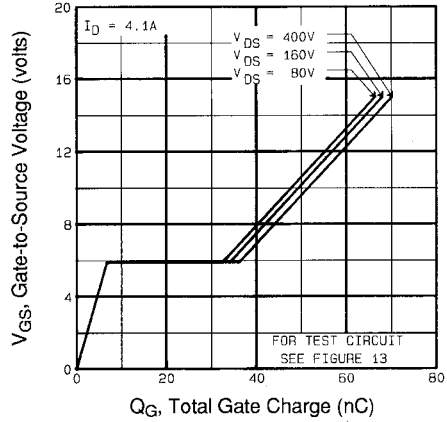

Fig 6. Typical Gate Charge Vs. Gate-to-Source Voltage
| Q_{gd} | Gate-to-Drain ("Miller") Charge | — | — | 45 | | $V_{GS}=10V$ See Fig. 6 and 13 ④ |